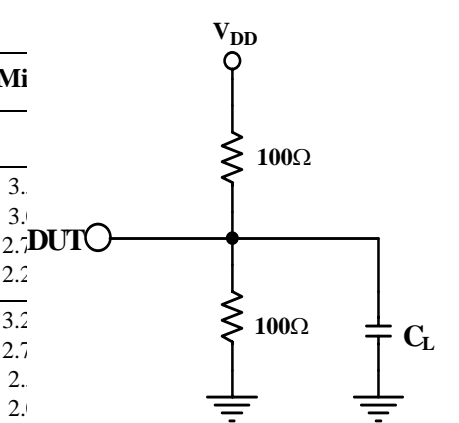

Figure 4. Clock Output AC Test Load Circuit
- 1. Test load = $40pF$, terminated to $V_{DD}/2$. All outputs are equally loaded. Reference figure 4 for clock output loading that is equivalent to the load circuit used for all AC testing.